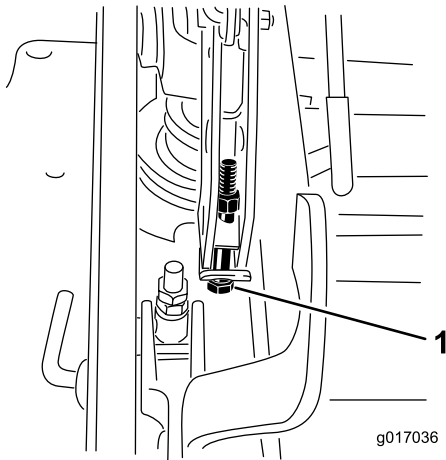

Figure 95
12. If the deck is too low, tighten the single-point-adjustment bolt by rotating it clockwise. If the deck is too high, loosen the single-point-adjustment bolt by rotating it counterclockwise (Figure 95).
16. Fine tune the screw adjuster by turning it to get 8.3 mm (3-1/4 inches) height (Figure 95).